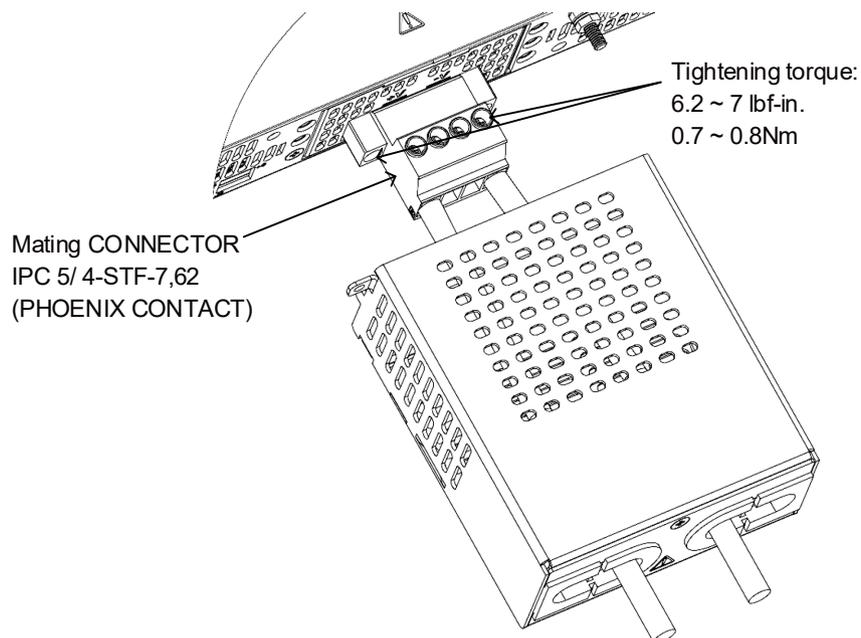

Figure 4-60: Load Wires Connection to The Output Plug
3. Insert the wires through the output protection assembly as shown in Figure 4-60.
4. Insert the stripped wires into the terminals and tighten the terminal screws securely (see Figure 4-60). Tightening torque: 6.2-7 Lbf-inch. (0.7-0.8Nm).
5. Tighten the mating connector to the power supply rear panel (see Figure 4-60). Tightening torque: 6.2-7 Lbf-inch. (0.7-0.8Nm).